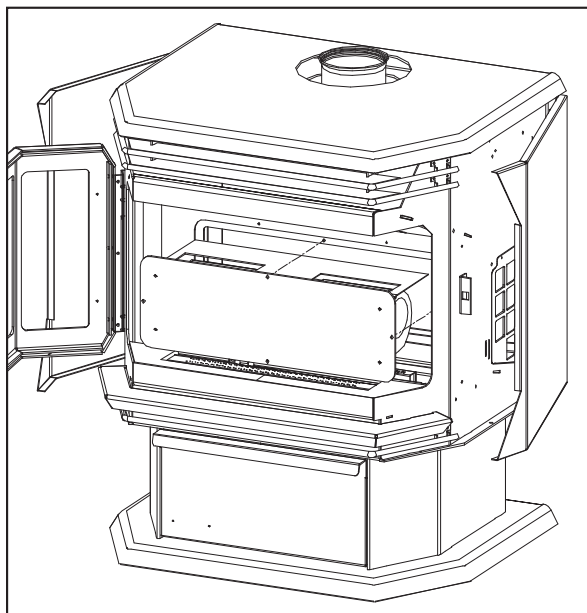

Figure 8: Blower (Fan) Removal.
4. Remove the four (4) 5/16" bolts that hold the blower mounting plate to the back firewall. Use a light lubricating oil on screws before removal.
5. Carefully pull the blower assembly into the firebox (see Figure 8) disconnect the blower leads from the harness and remove blower.